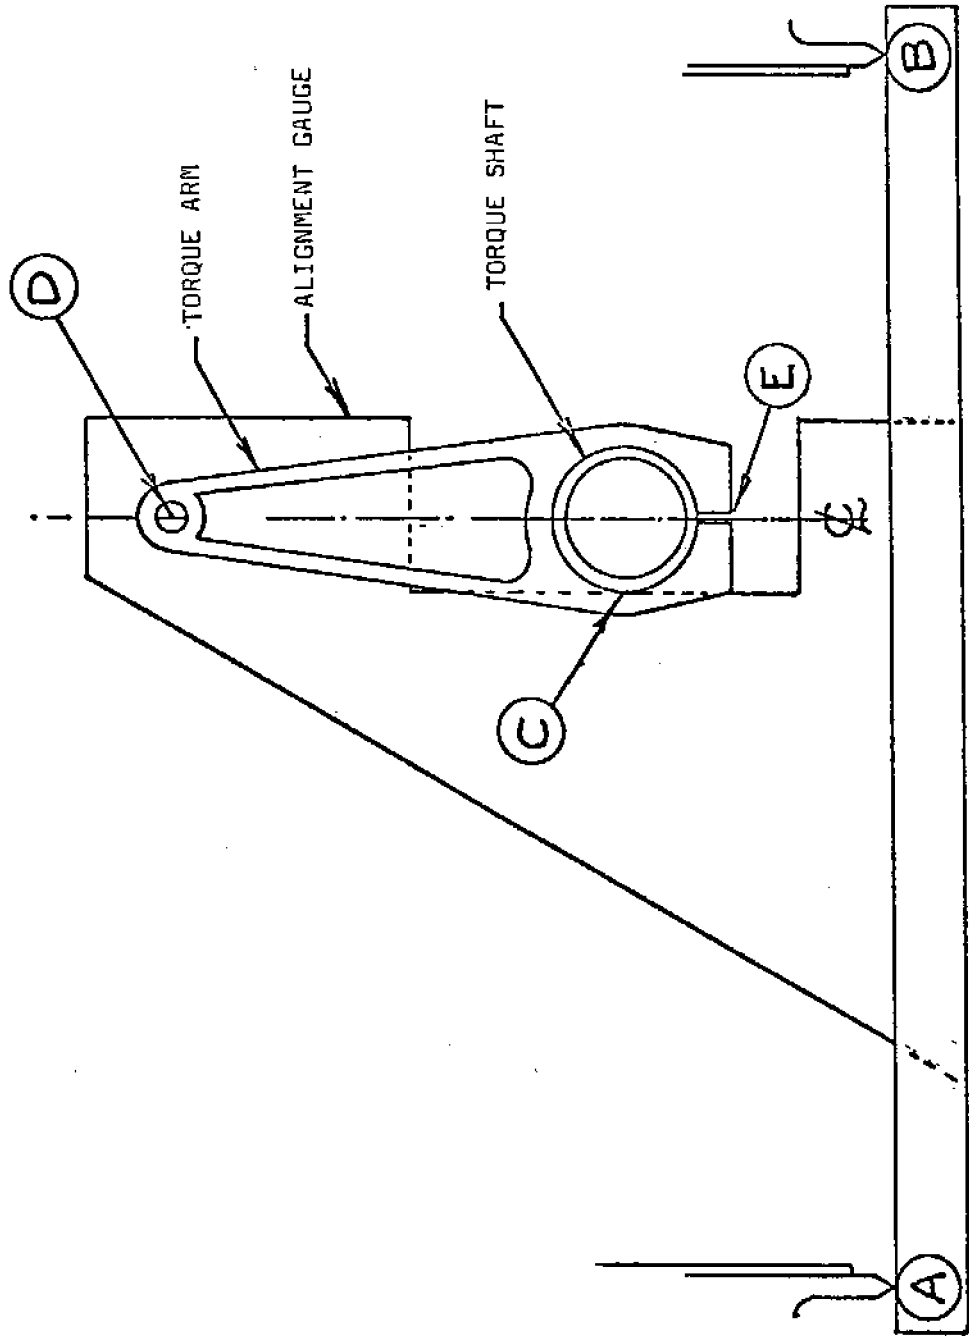

Figure 3-3. Use of gauge to center torque arms on shaft
- E. With a suitable torque arm alignment gauge, such as is shown in Figure 3-3, check the arms for angular alignment. The tool should make firm contact with both tank seal flanges, as shown at (A) and (B) and to the torque shaft, as at (C), checking to see that the center line scribed on the gauge is centered on the torque arm bolt hole, as shown at (D).
In manufacturing the alignment gauge, it is essential that the centerline, shown in Figure 3-3, is established perpendicular to a line drawn from points (A) and (B). You may find it convenient to use a straight length of angle to establish this reference plane.